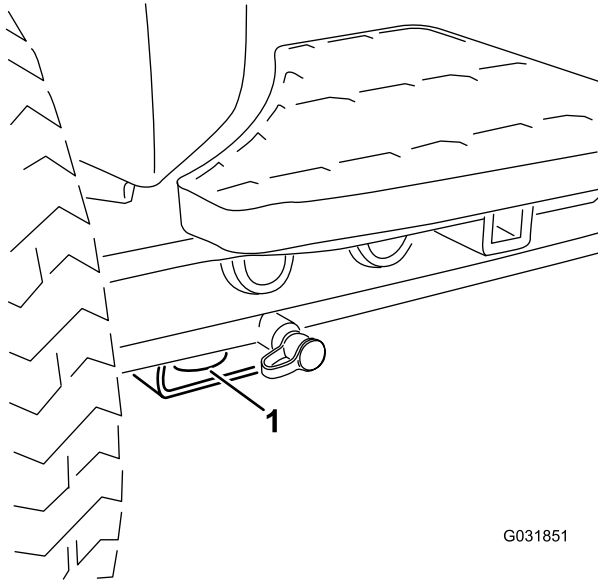
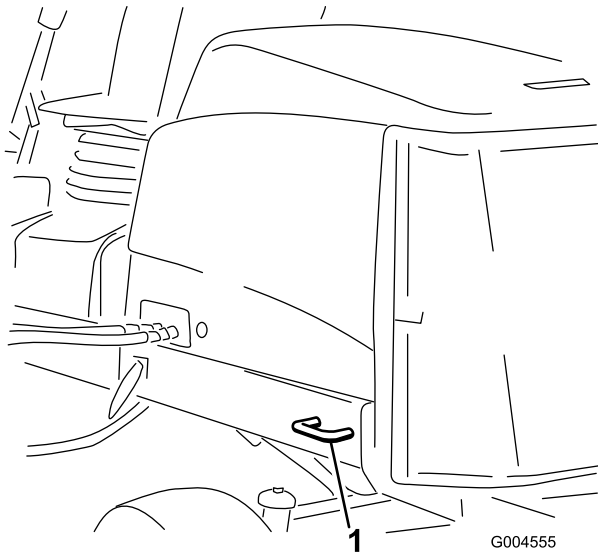

Figure 57
Figure 58
5. Use the metal tie-downs on the machine to securely fasten the machine to the trailer or truck with straps, chains, cable, or ropes (Figure 57 and Figure 58).
- Front—the hole in the rectangular pad, under the axle tube, inside each front tire (Figure 57)
- Rear—each side of the machine on the rear frame (Figure 58)